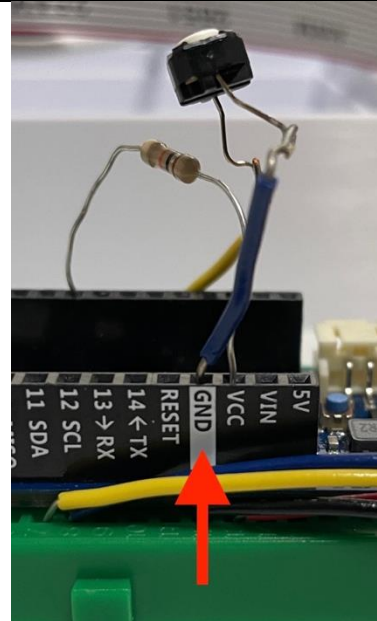

Figure 39: Connect the leg of the pushbutton with blue wire to GND pin.
6. Connect blue end of the soldered pushbutton to GND pin on the Arduino as shown in Figure 39.